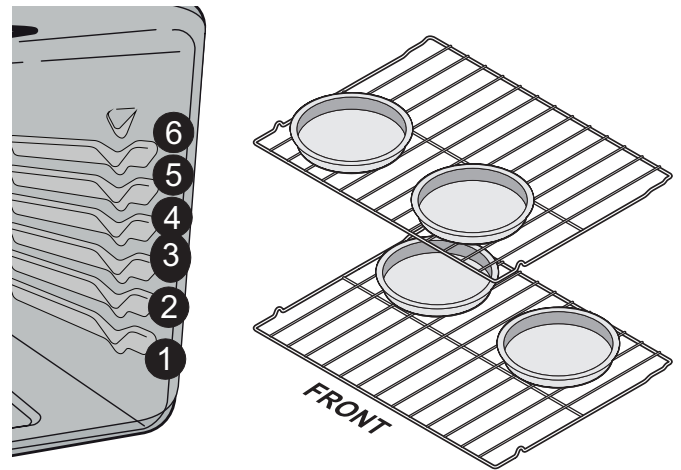

Figure 7: Oven racks and pan placement,
- For best results when baking layer cakes using two oven racks, place racks in positions 1 (Flat) and 4 (Glide) and place pans as shown in Figure 7.